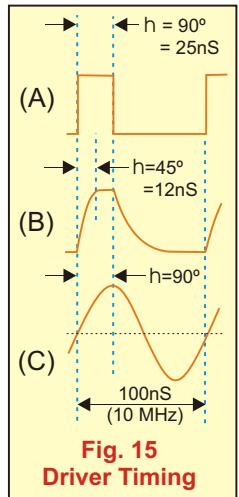

Fig. 15
I recommend striving for 15–20nS. See **Figure 15**. This is also consistent with the ~16nS rise time, t_r , of the IRF510. "Tr" is theoretically the fastest C_{iss} can be charged.
I have found a driving current of 25–30mA to be a nice compromise to charge C_{iss} sufficiently fast for high efficiency. Referring to **Fig. 15 (B)**, if the gate waveform does not flatten out at the 8v level (looks more like a sine wave), the driver is not providing sufficient current to the gate. Driving the gate voltage to saturation quickly, by providing sufficient gate drive current, is paramount in achieving the